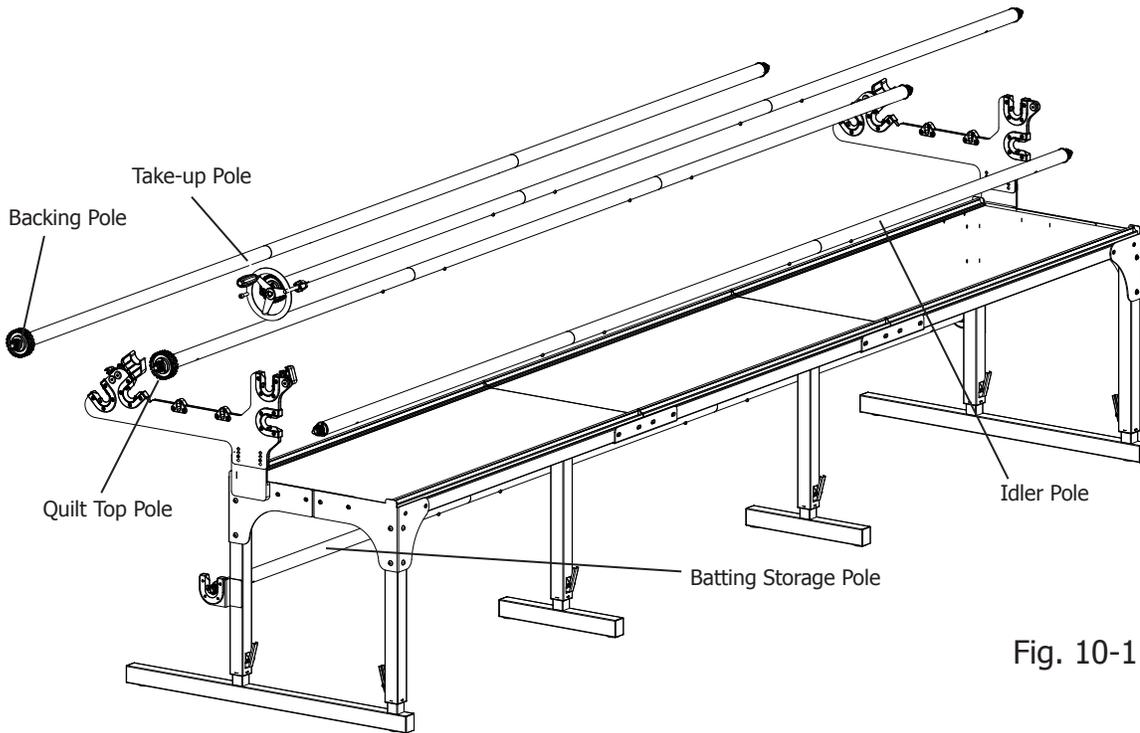

Fig. 10-1
**10-1:** Place the poles on the frame, as shown in Fig. 10-1.
**14-1:** Prepare to attach the hook and loop strip to the quilt top pole, backing pole, and take-up pole (see Fig. 10-1), by measuring in 3" from each end of the pole. Peel the backing off the strip as you go and apply to all three poles, starting at the 3" mark and ending at the opposite 3" mark.